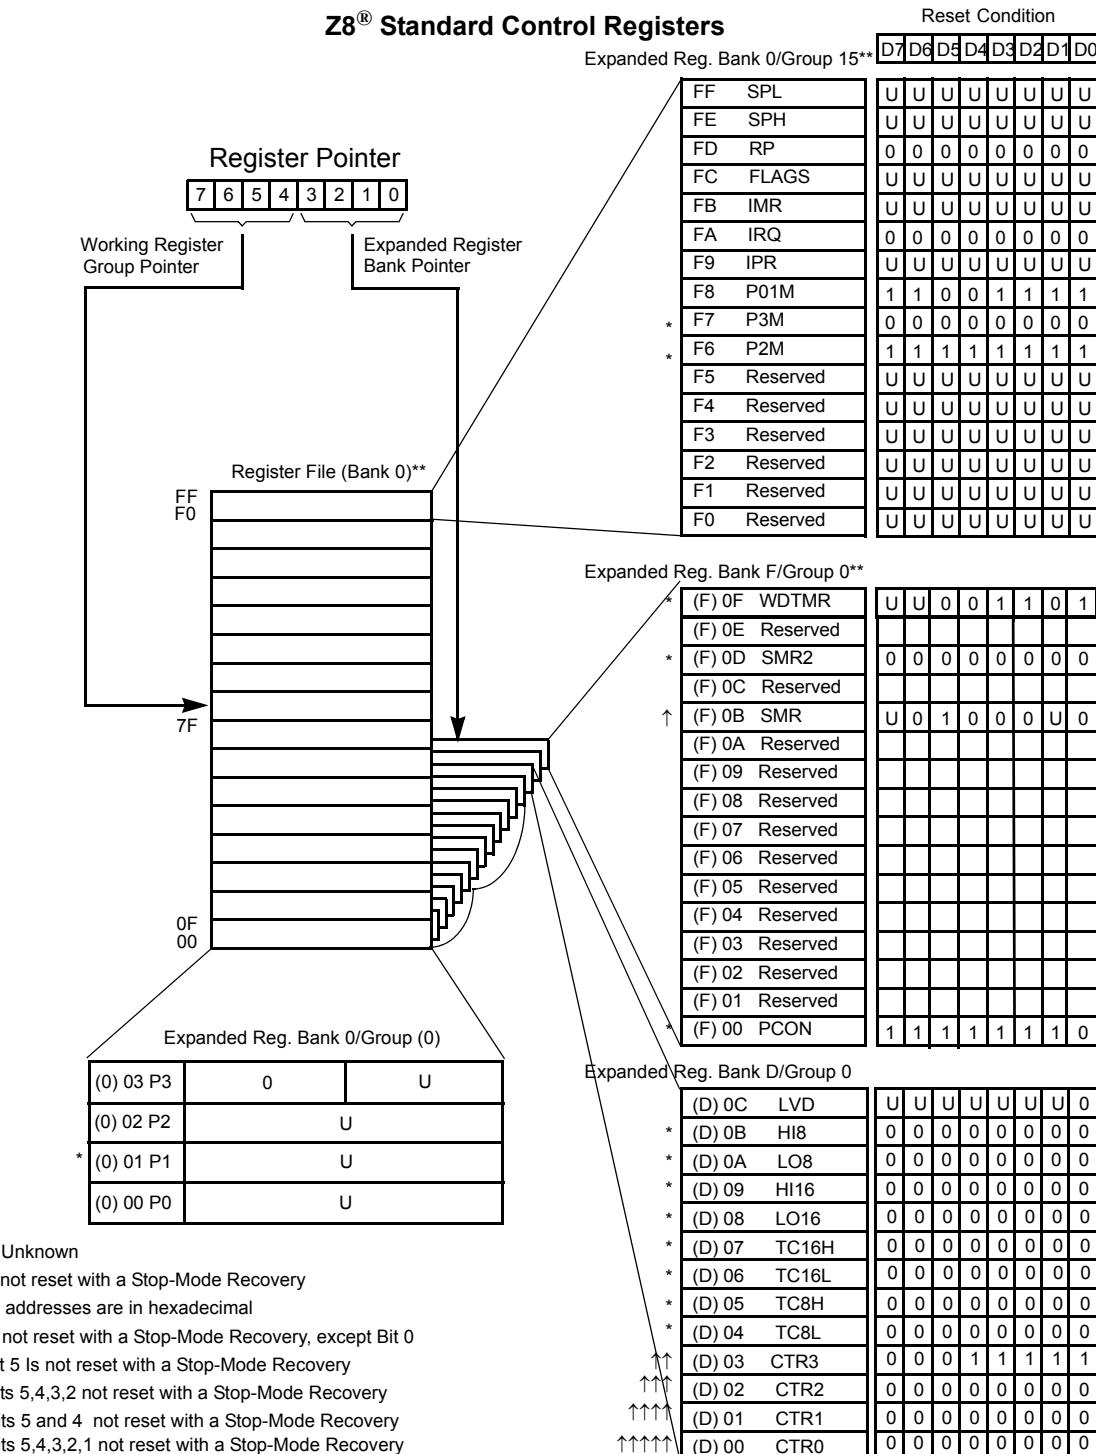

Figure 13. Expanded Register File Architecture
- **Note:** An expanded register bank is also referred to as an expanded register group (see Figure 13).
Example: Z8 GP: (See Figure 13 on page 21)